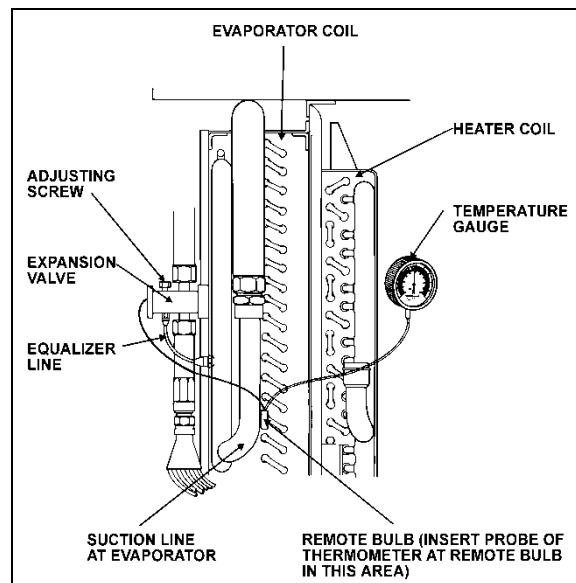

FIGURE 57: SUPERHEAT ADJUST. INSTALLATION 22046
3. Use a remote reading thermometer or thermocouple / multimeter to measure temperature at the evaporator outlet line near the existing remote bulb (Figure 57).